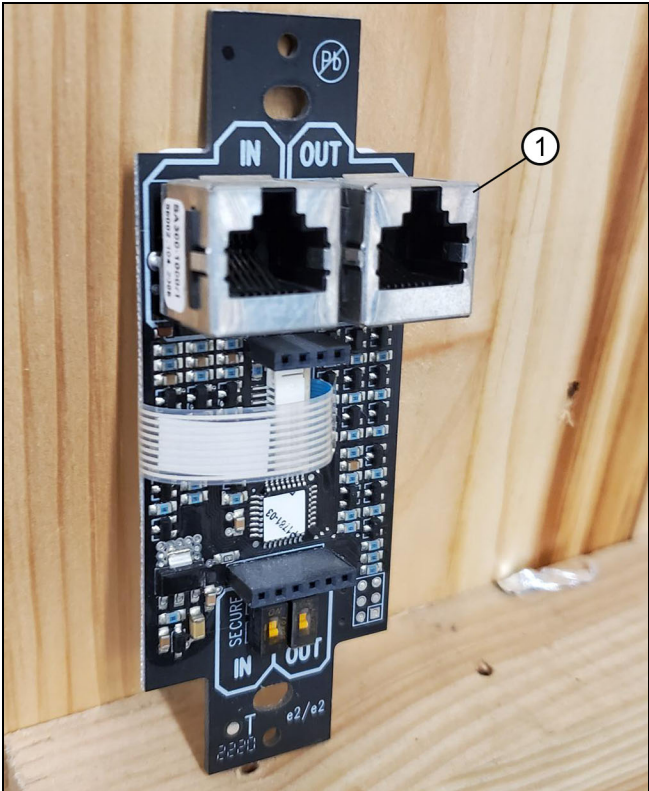
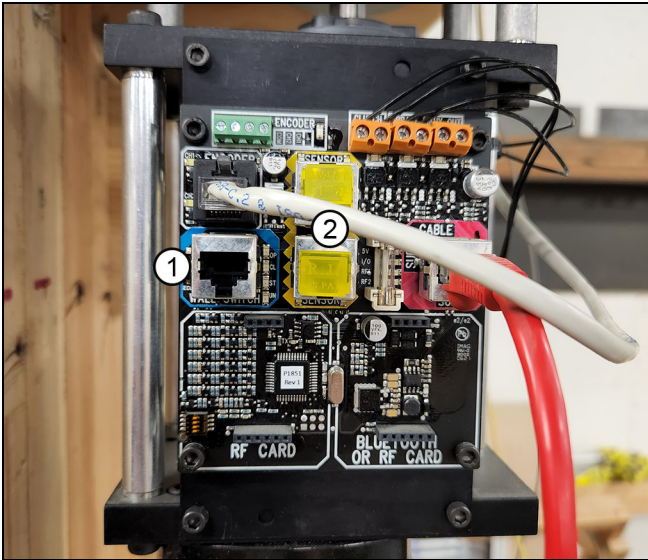

Figure 22
Figure 23
4. **Sensors:** connect the yellow CAT5e to the corresponding sensor port on the motor. See Figure 22 and Figure 23.